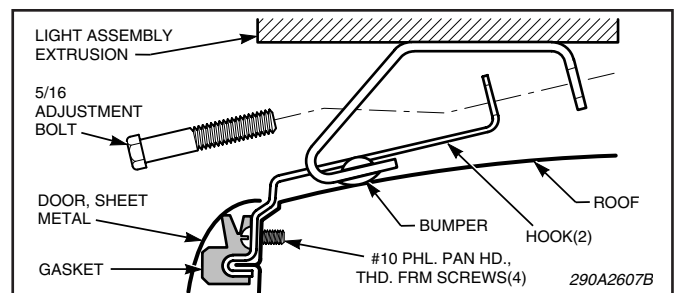

Figure 1.
2. See Figure 1. Determine where the hook will attach to the vehicle.
3. Slide the door gutter gasket off the roof sheet metal just enough to place the hook in position. Place the hook in position on the roof sheet metal as shown in Figure 1.
7. Secure the hook using the two sheet metal screws provided (#10 thread-forming) as shown in Figure 1.